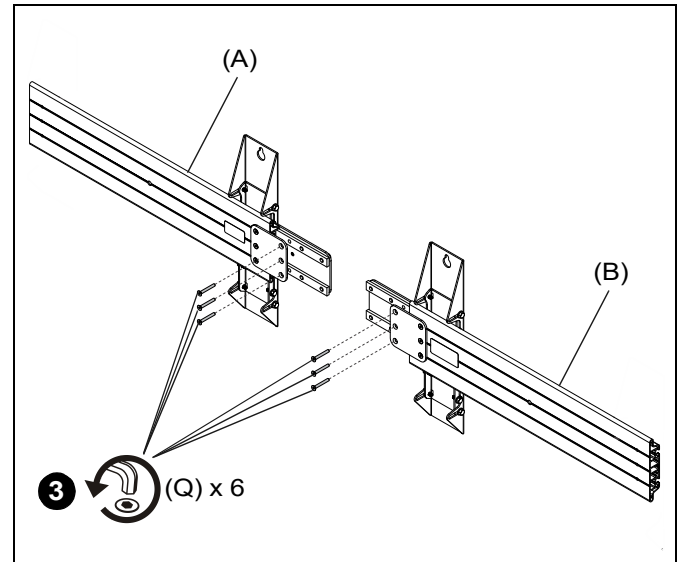

Figure 3
3. Remove the six 10-24 x 3" hex screws (Q) from the front sides of the right (A) and left (B) extrusion assemblies. (See Figure 3)
NOTE: Do not remove the remaining six screws not identified in Figure 3